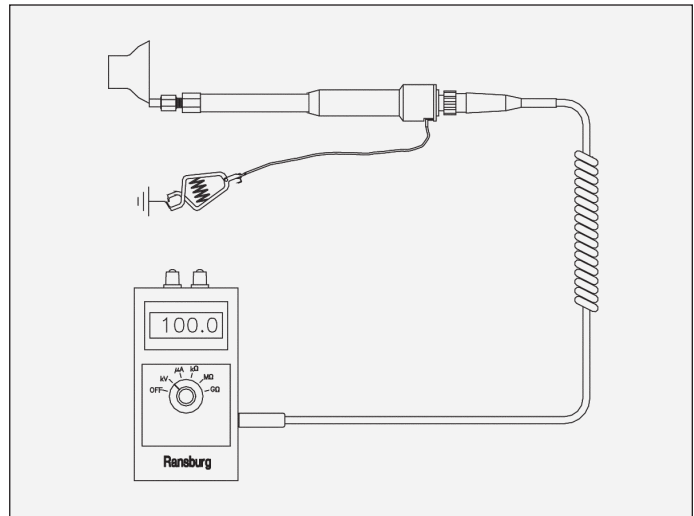

Figure 8: Measuring High Voltage On Bells or Disks
8. Make and maintain sure contact between the test probe and the applicator (see Figure 8).
Ensure that the applicator is **NOT** rotating when contacting it with the probe. Also, to get proper readings on resistive applicators, the probe must be placed in contact with the atomizing edge of the bell or disk as shown in Figure 8. As this edge is sensitive to mechanical damage, use care when contacting it with the probe. Rough handling may cause damage to the applicator.